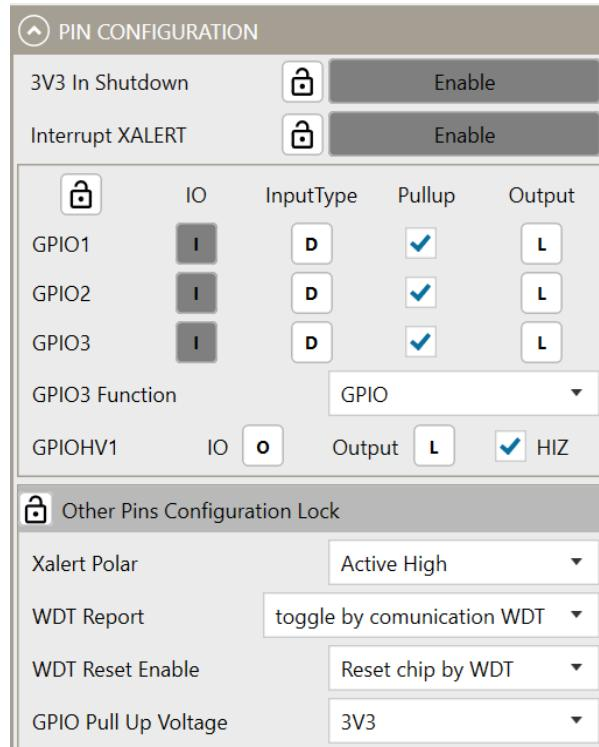

Figure 14: Pin Configuration
10. Configure the GPIO pins (see Figure 14).